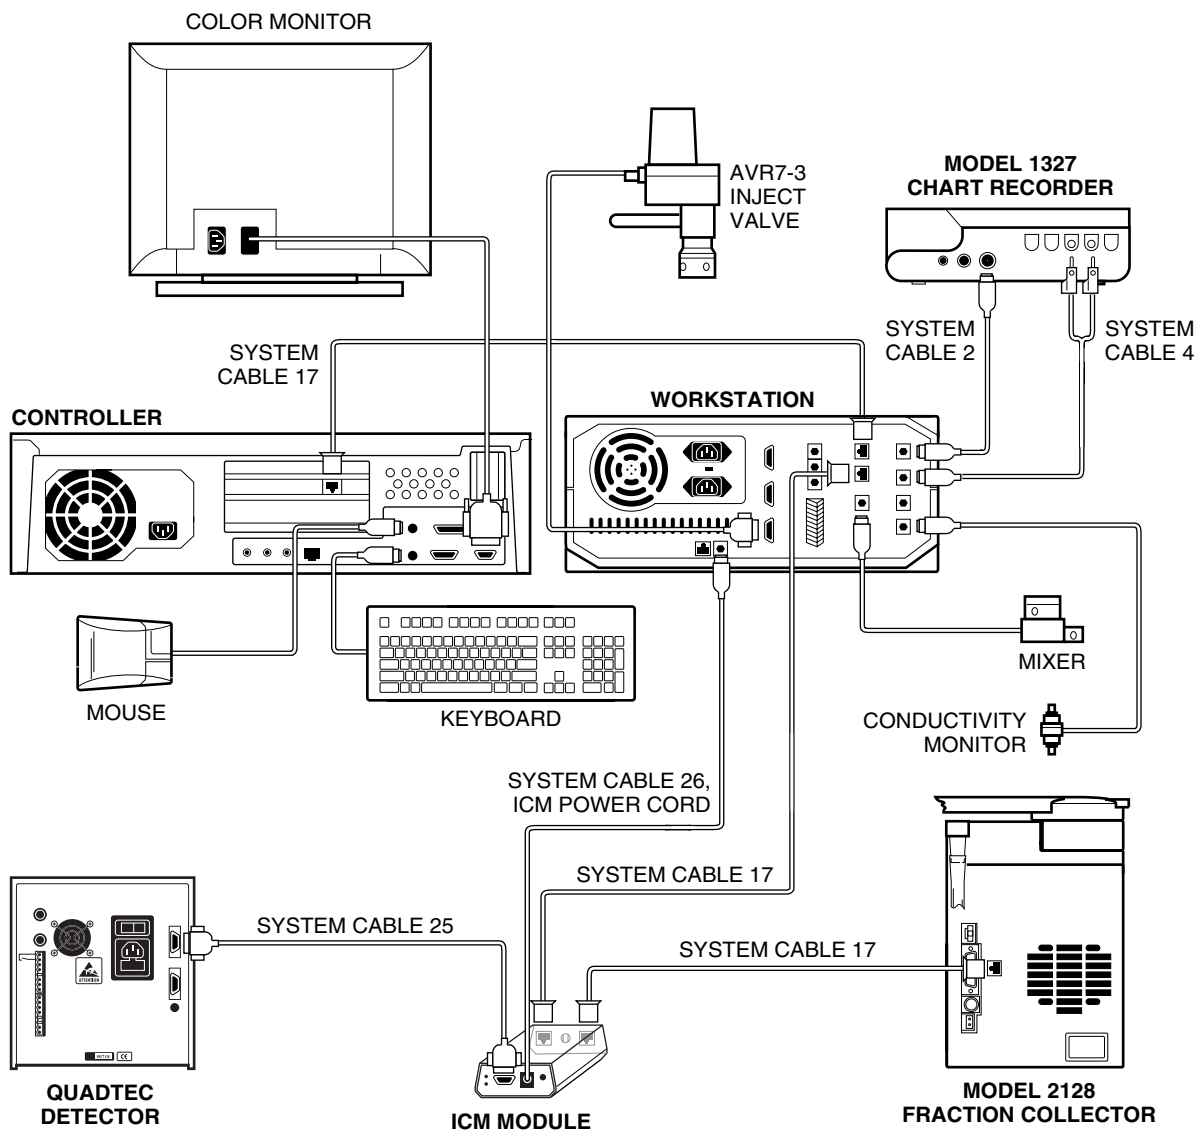

Figure 2-3. Connecting to the DuoFlow System
- Instrument bus connector: This connector is for System Cable 17 which connects to the BioLogic Workstation and the Model 2128 Fraction Collector if used. (Refer to Figure 2-3.)